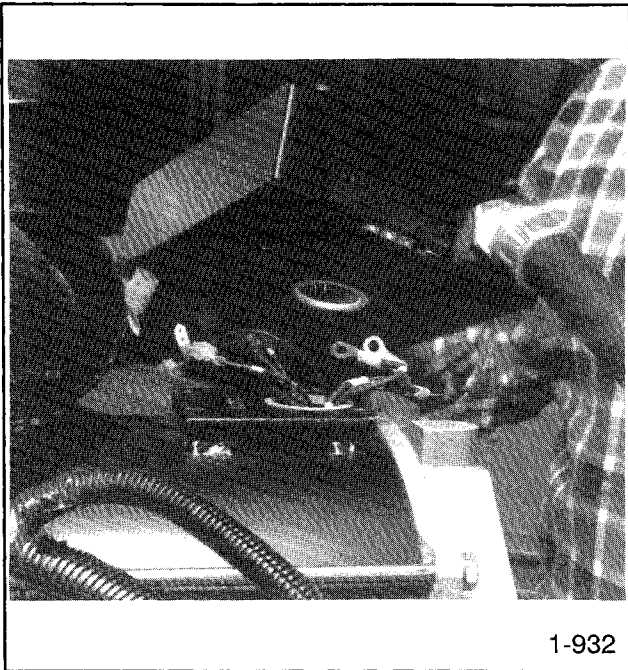

Figure 8-6. Removing the Junction Box.
14. Remove the four junction box mounting screws using a 7/16 in. ratchet to remove the junction box from the stator mounting bracket. See Figure 8-6.